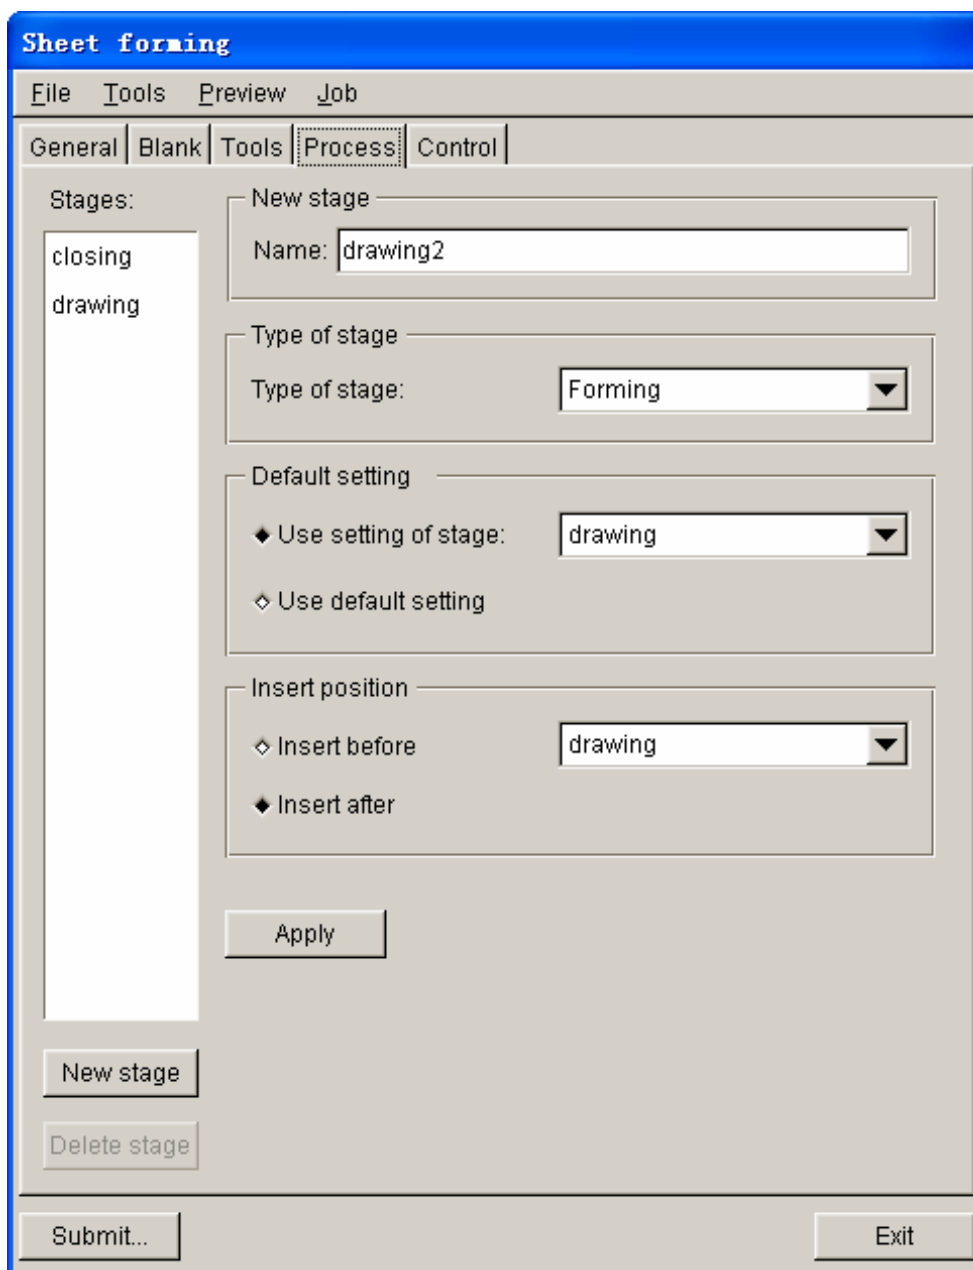

Figure 5.73 Define new process
2. At the input data field of Name, type in **drawing2** as the name of new process. See Figure 5.73.